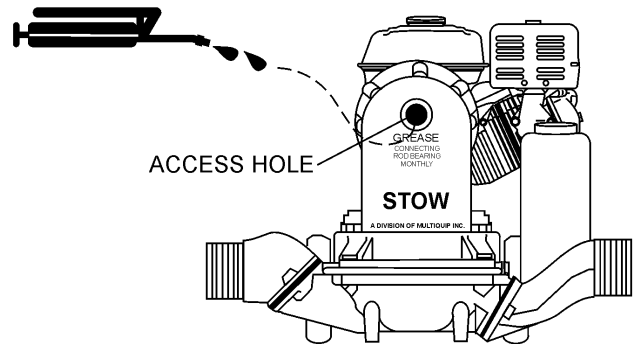

Figure 7. Connecting Rod Bearing Lubrication
1. Grease **connecting rod bearing** thru the access hole (Figure 7) every 25 hours of operation.